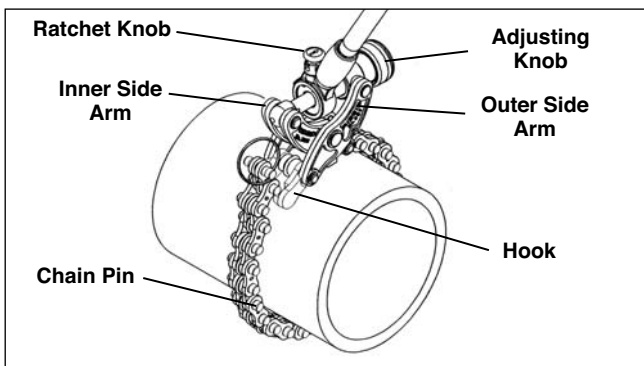

Figure 5
1. Lift and turn ratchet knob to neutral position (pin should not be in groove). (Figure 5)
2. Turn adjusting knob until jaws are fully open. (Figures 5 and 6)
3. Turn adjusting knob so that arrow points to word CUT on the ratchet housing, (Figure 5). Chain must be properly set to assure ample travel for cutting action.